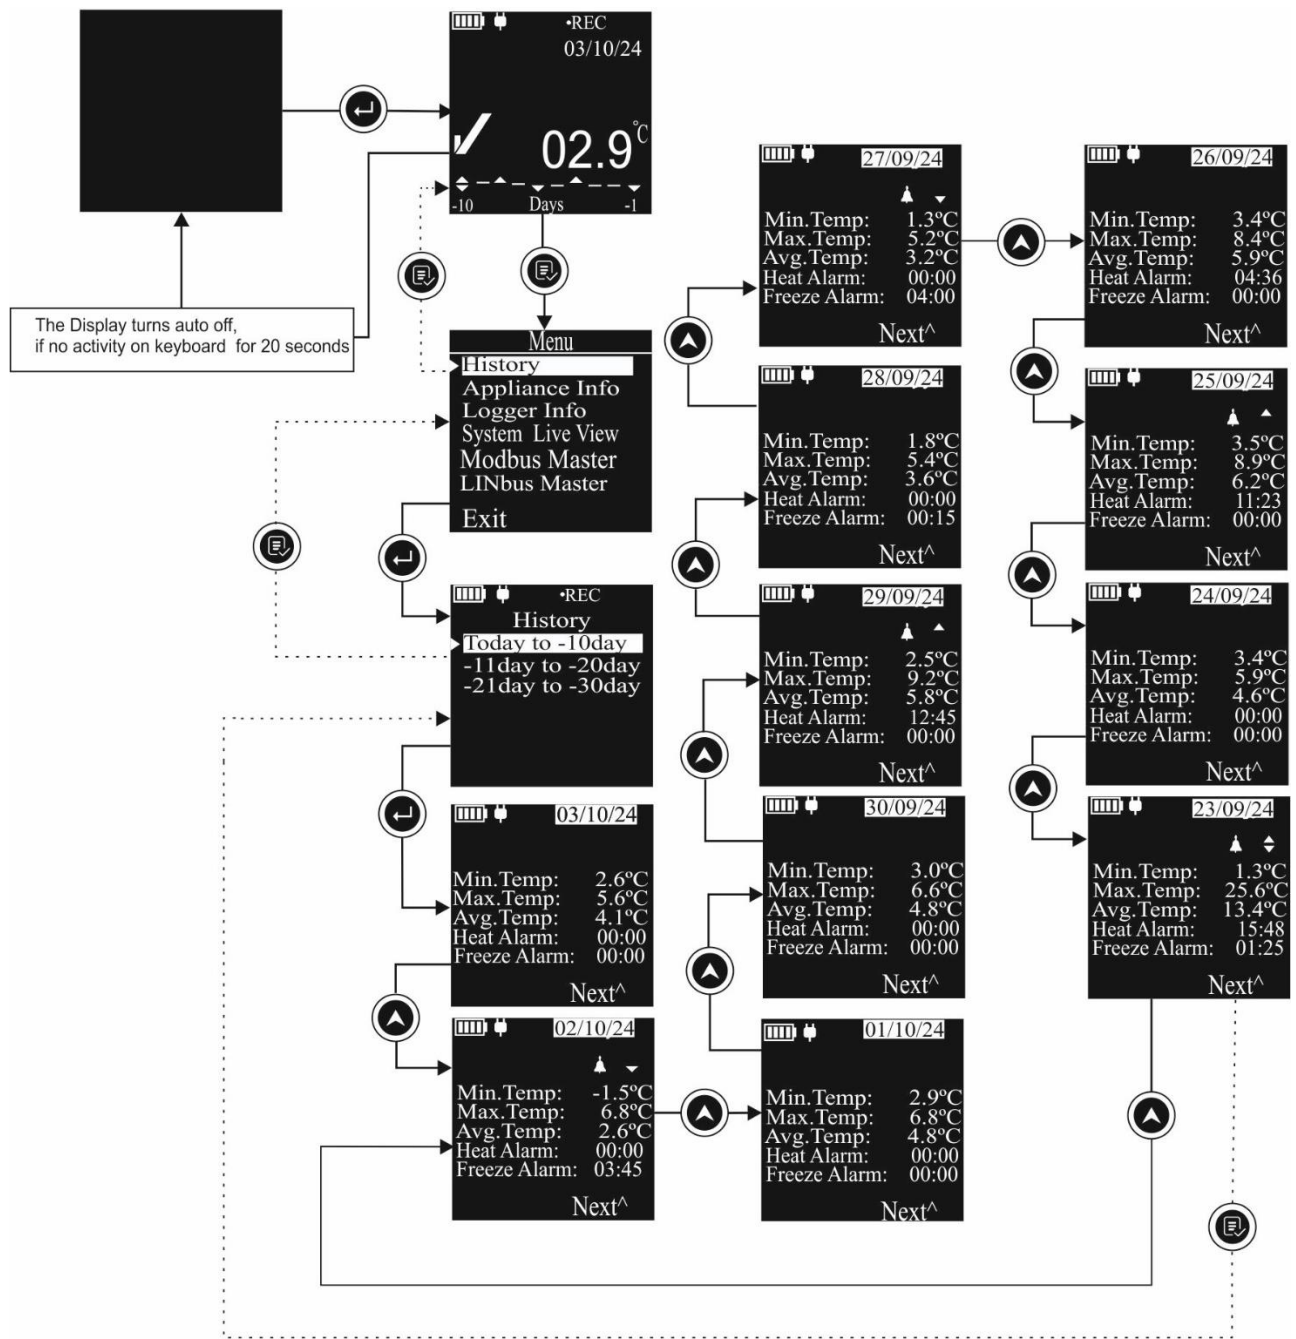

Figure 16 View History data Sequence for Today to -10 day
If the device is running since 30 days, all three options will be seen. By choosing the “**Today to - 10 day**” option, the display will be showing following data for corresponding history day as shown in figure 16.
- Access the main Menu and select the Appliance Info option as per the steps shown in figure 16.